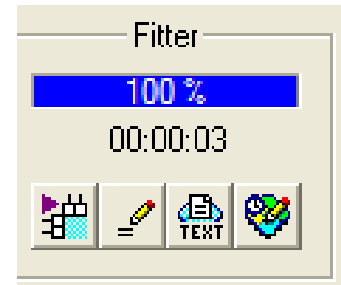

Figure 3: Part of Compiler Tool window.
1. If you used the “Compiler Tool” (available under Processing), you can select the third button under “Fitter” with the word “TEXT” under it (as shown in Figure 3). This will open the Fitter Report file (with file name extension .fit.rpt).